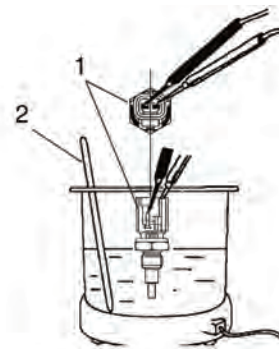

Figure 311
1. Inspect the water temperature sensor to make sure that it is properly operating. As shown in the following figure, connect an electric resistor to the coupler of the water temperature sensor (1, Figure 311).
2. Dip the water temperature sensor and an accurate thermometer (2, Figure 311) into the cooling water.